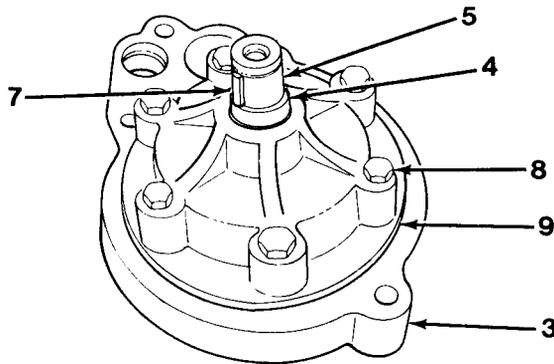

Figure 11-2
8. Install charge pump retainer (9) on pump manifold (3, Figure 11-2). Line up match-marks made during disassembly.
9. Install six bolts (8) to secure charge pump retainer (9) to pump manifold (3).
10. Install snap ring (4) on shaft (5) up against pump retainer (9).
11. Install woodruff key (7) into shaft (5).